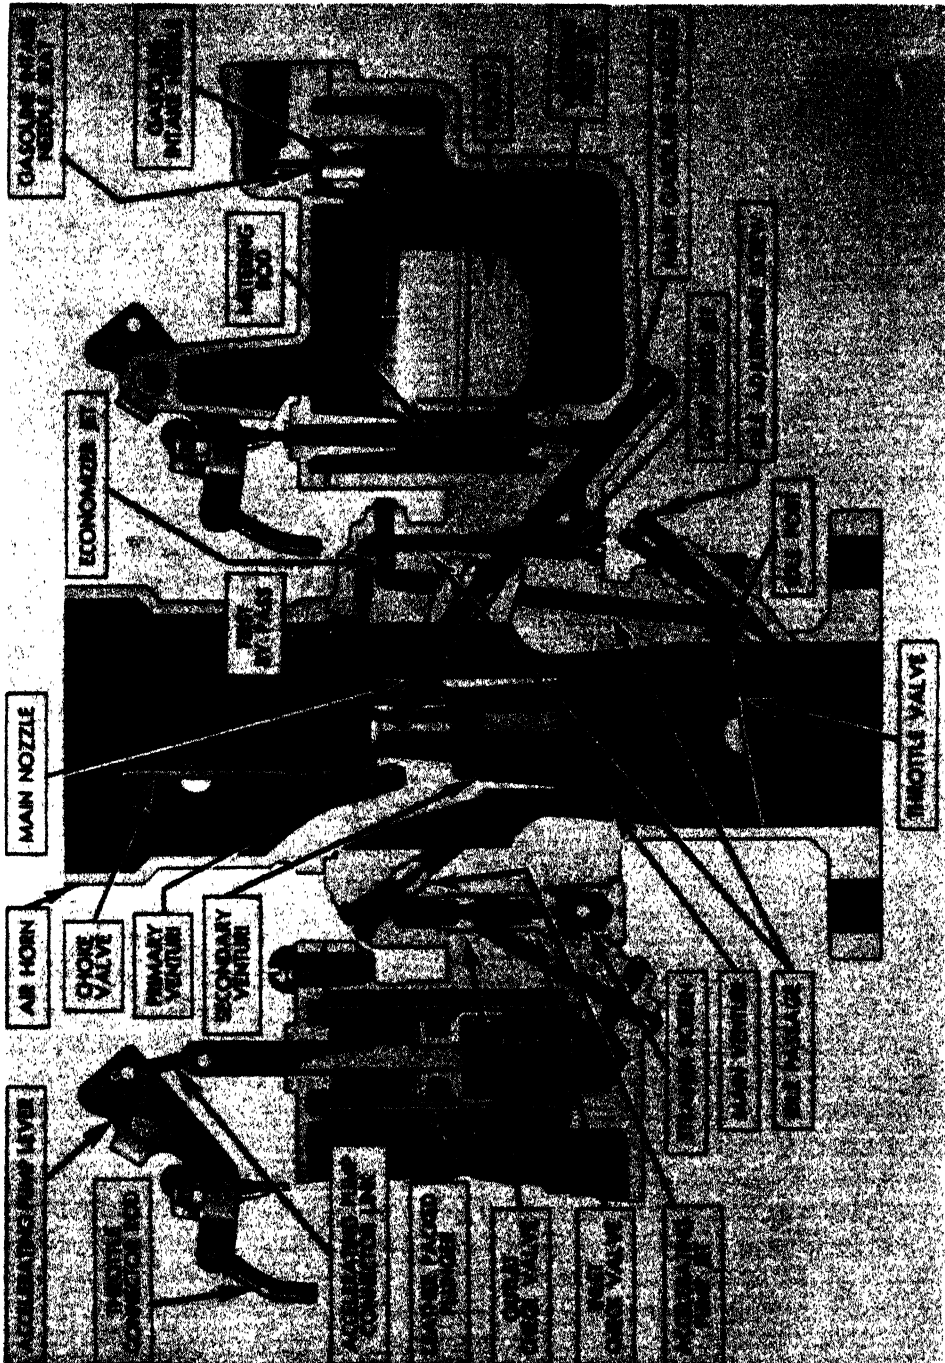

FIG. 204. DIAGRAMMATIC VIEW OF CARBURETOR.
3. The "venturi" in a carburetor applies Bournoulli's Principle. Fig. 204 shows a cross-sectional view of a modern automobile carburetor. The venturi tubes cause the fuel-air mixture to move more rapidly, reducing the pressure. This causes the gasoline to evaporate more rapidly and vaporize more completely.
The carburetor is a complicated piece of precision built machinery. With the aid of Fig. 204, the following description will explain its operation. This carburetor has three venturis, one located above and two below the level of the fuel in the float chamber. The triple venturi increases the suction on the first or primary venturi, causing the nozzle to start delivering fuel at very low air speeds.